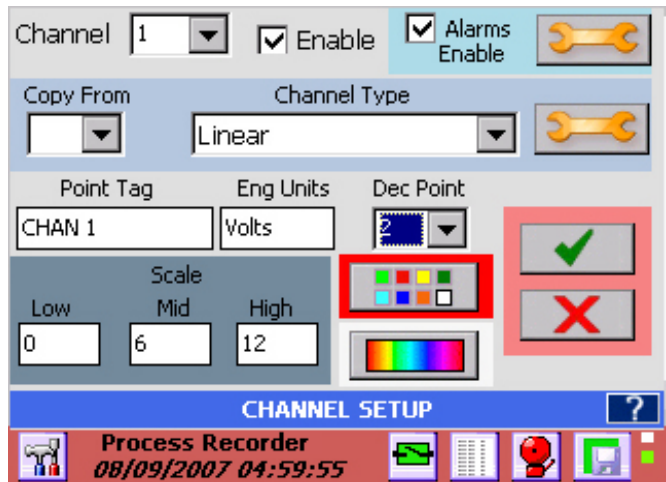

Figure 5-2 Channel Setup
Pressing the **edit** button from the Master Channel Setup window takes you to the Channel Setup dialog window as shown in Figure 5-2. The user can copy an existing channel to this one or set up a new channel including the channel type and range, the point tag, engineering units and assign colors. Values set here will be the default for any widget attached to this channel.
**Scale:** This is used to customize the scale on trends and bar charts to something other than the default. For example in Figure 5-2 above, the Linear 12 volt range has been selected. The scales will default to 0, 6, 12 as shown. If the input range of interest were 5 to 10 volts you could set the low, mid and high scales to 5, 7.5 and 10 respectively.